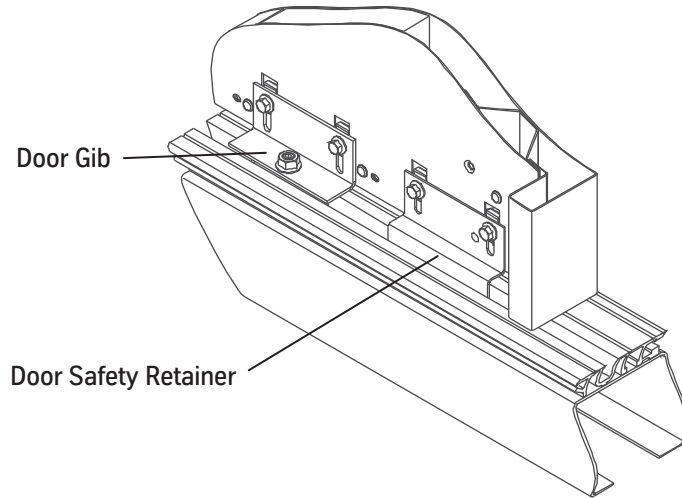

Figure 60 - Door Gibs and Safety Retainers
7. Install the door gibs and the door safety retainers. See Figure 60.